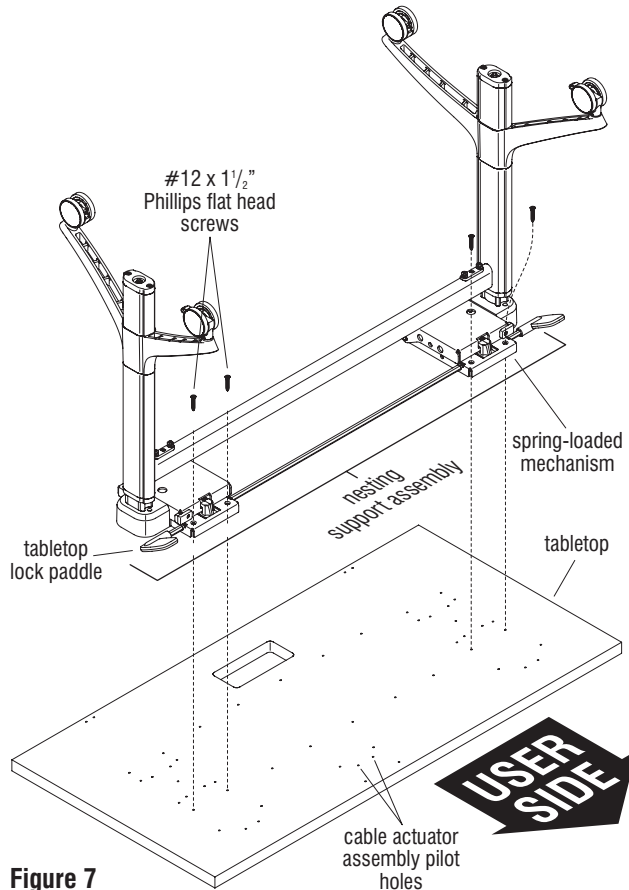

Figure 7
17. Carefully place the tabletop upside down on a soft, protective surface. Take note that the "user side" of the tabletop has a pilot hole pattern for the cable actuator assembly near the front edge, at the center. Carefully position the nesting support assembly onto the tabletop with the tabletop lock paddles and wider spread of the legs oriented to be facing the user side of the table, as illustrated (Figure 7 & Detail K).
18. Align the two mounting holes on the front of each spring-loaded mechanism of the nesting support assembly to the corresponding pre-drilled holes at the underside of the tabletop, then secure into each pre-drilled hole a #12 x 1/2" Phillips flat head screw. Do not over-tighten (Figure 7 & Detail L).